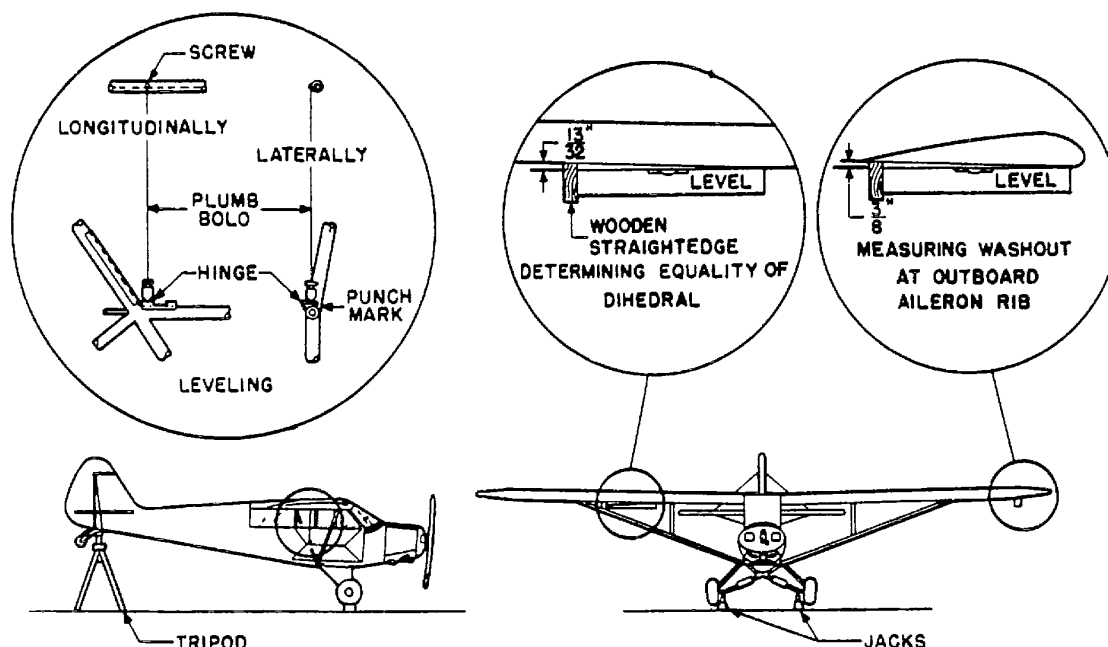

Figure 2-21. Rigging Diagram
2-72. RIGGING DIMENSIONS. (See figure 2-21.) Level the airplane laterally and longitudinally as explained in paragraph 1-14. Check alignment of the wings and tail surfaces according to figure 2-21. Perform all adjustments according to paragraphs 2-72, through 2-80.
2-73. DIHEDRAL ANGLE. (See figure 2-21.)
b. To determine the equality of dihedral of each wing panel, hold a wooden straightedge on the end of a 30-inch level so that one end of the straightedge protrudes 13/22 of an inch above the level (see figure 2-21) and place the combination along the undersurface of the full rib next to the outer end of the aileron. The level end with straightedge spacer should be to the rear of the rib while the other end of the level should be placed under the front spar. Correct washout exists when the bubble is centered. Check the opposite wing panel in the same manner.
2-74. WASHOUT. (See figure 2-21.)
a. Check the washout of each wing by holding a wooden straightedge on the end of a 30-inch level so that one end of the straightedge protrudes 3/8 of an inch above the level (see figure 2-21) and placing this combination along the undersurface of the full rib next to the outer end of the aileron. The level end with straightedge spacer should be to the rear of the rib while the other end of the level should be placed under the front spar. Correct washout exists when the bubble is centered.
(Level airplane, see figure 2-21.) The tension of the tail brace wires will be adjusted to obtain 7/16 inch plus or minus 1/16 inch deflection when a load of 10 pounds plus or minus 1 pound is applied at right angles at the center of the wire. The rear spar of the stabilizer will be level and the elevator hinge line straight. The fin will be vertical at the rudder hinge center line.